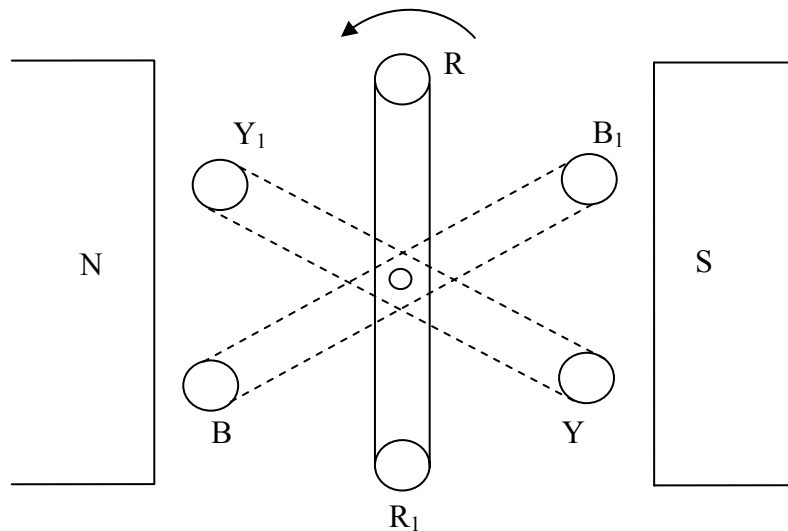

Fig.6 Generation of three-phase e.m.f.s.
- Just as we saw how single phase ac is generated by rotating a coil through a magnetic field. If three similar loops fixed to each other at 120° on a common spindle and rotated as shown in Fig 6.
- For the position in figure (1) E.m.f. in $RR_1 = 0$
- When moved by 90° (2) – E.m.f. is $RR_1 \approx \text{max}$ generated e.m.f. in YY_1 and BB_1 have same amplitude as in RR_1 but lag by 120° and 240° respectively. Generated voltages in three coils are